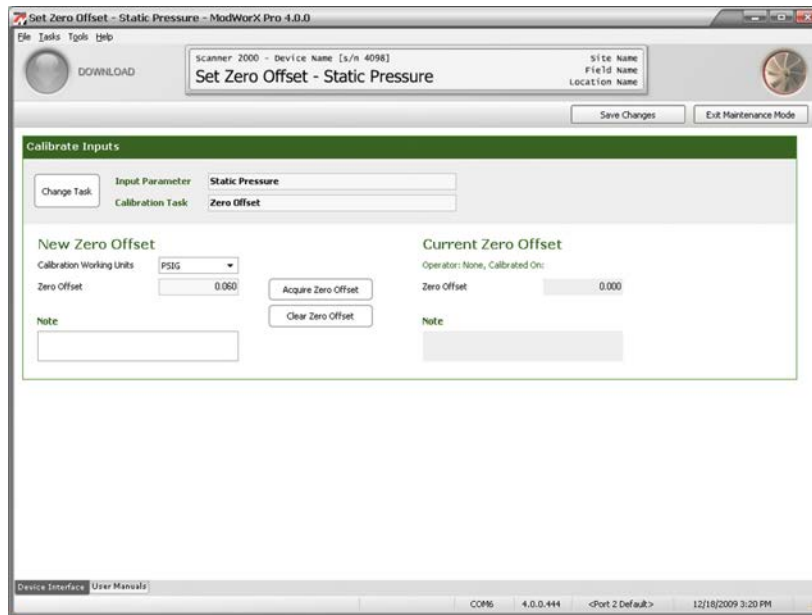

Figure 8.16
- When a measured value is indicated, click **OK** to save the calibrated zero offset value and return to the Set Zero Offset – Static Pressure screen. The calibrated value will appear in the Zero Offset field (Figure 8.16).